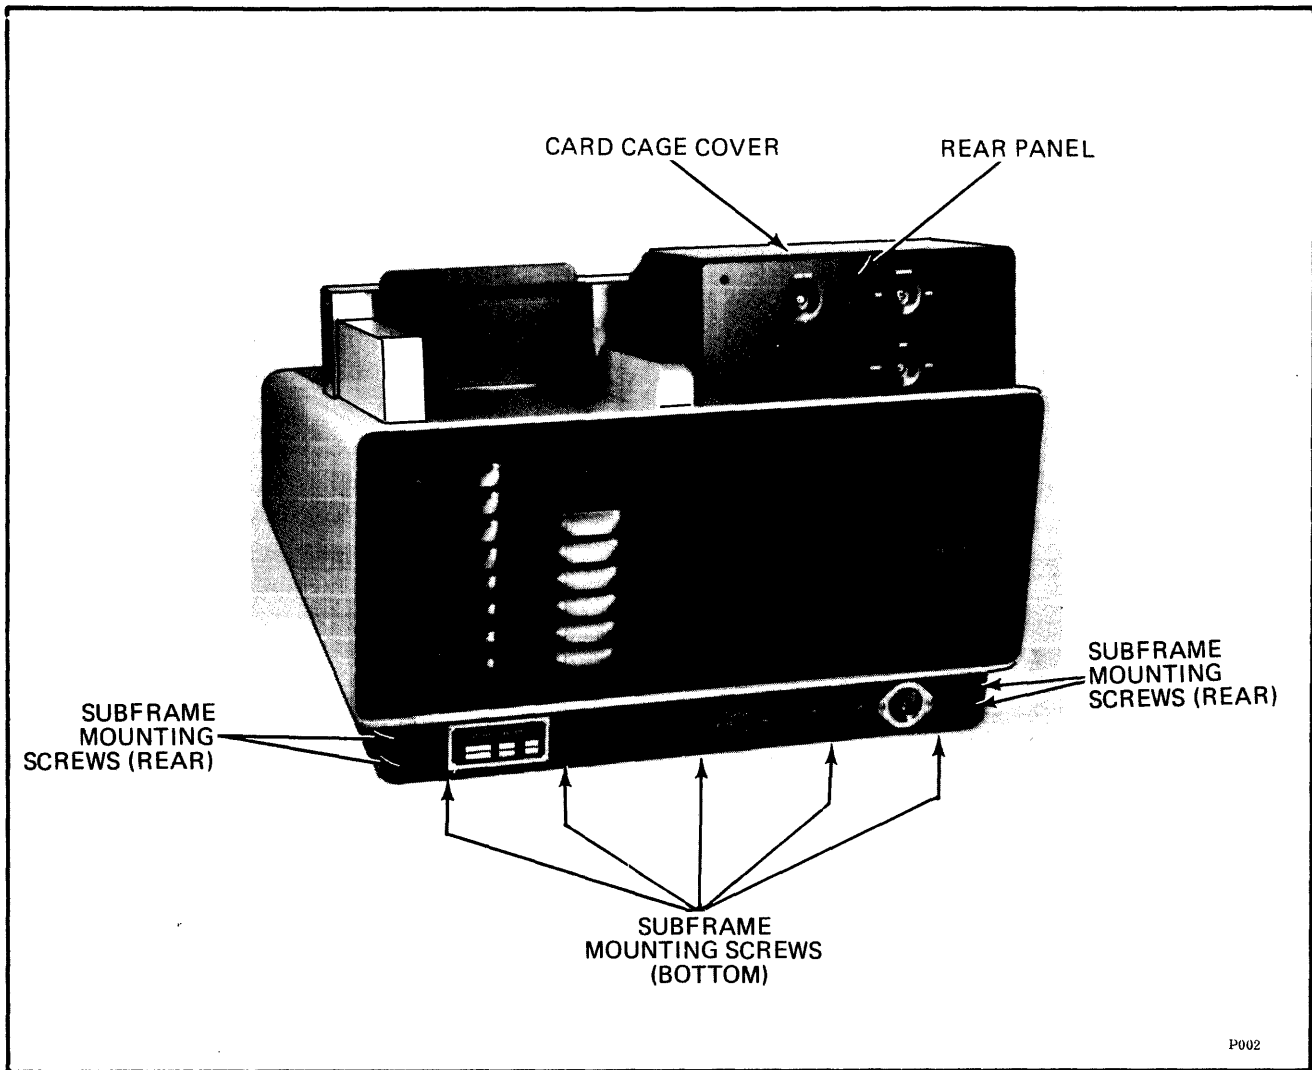

Figure 6-15. Removal of Rear Subframe Panel
- a. Remove four screws from rear subframe panel, Figure 6-15.